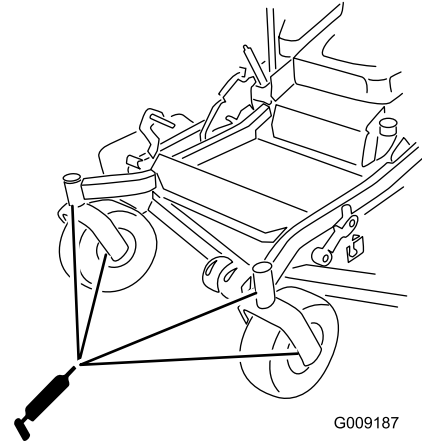

**Figure 37**
3. Grease the mower deck idler-pulley pivot until grease comes out the bottom (**Figure 37**).